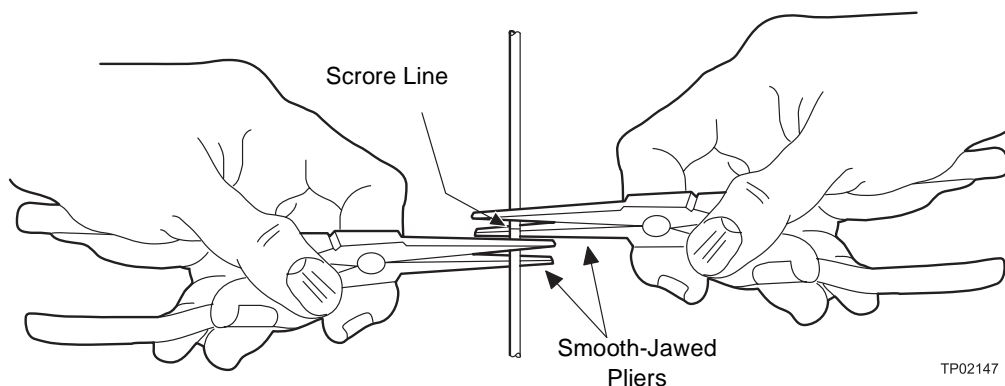

Figure 2-3 Breaking the Stainless Steel Tubing
3. Grip the cut tubing with two pairs of smooth-jawed pliers, one on each side of the score (Figure 2-3). Gently bend the tubing back and forth until it snaps. This leaves the tubing bore open with a minimum of burrs.